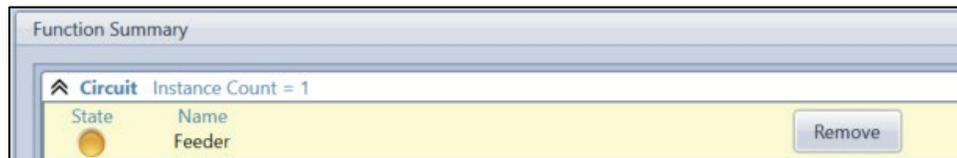

Figure 2-10. Function Summary Screen
- Step 7: Click the Yellow state button (Figure 2-10) on the newly created Circuit, then Edit Circuit from the Circuit view (Figure 2-11). The Circuit Editor screen (Figure 2-12) will appear. Select Current Phase and Ground Hardware slot 7. BESTCOMSPi.us will populate Current hardware channels I1-3 to IA, IB, and IC respectively. Hardware I4 to IG Ground will also be configured. Select Voltage Phase Hardware Slot 7. BESTCOMSPi.us will populate VA, VB, and VC inputs. The voltages in this Quick Start example are for metering and example. Press Ok.